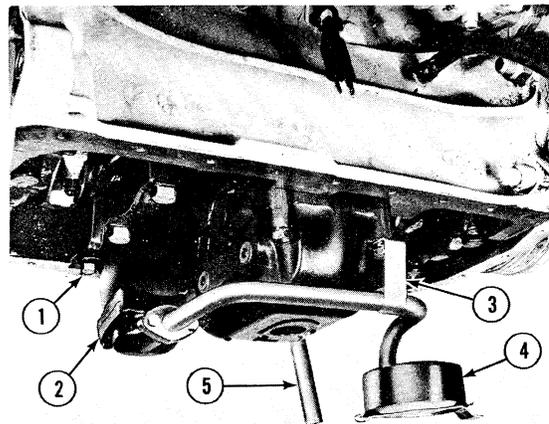

Figure 18
7. **OIL PUMP:** Remove the oil pump and intermediate shaft Figure 18.